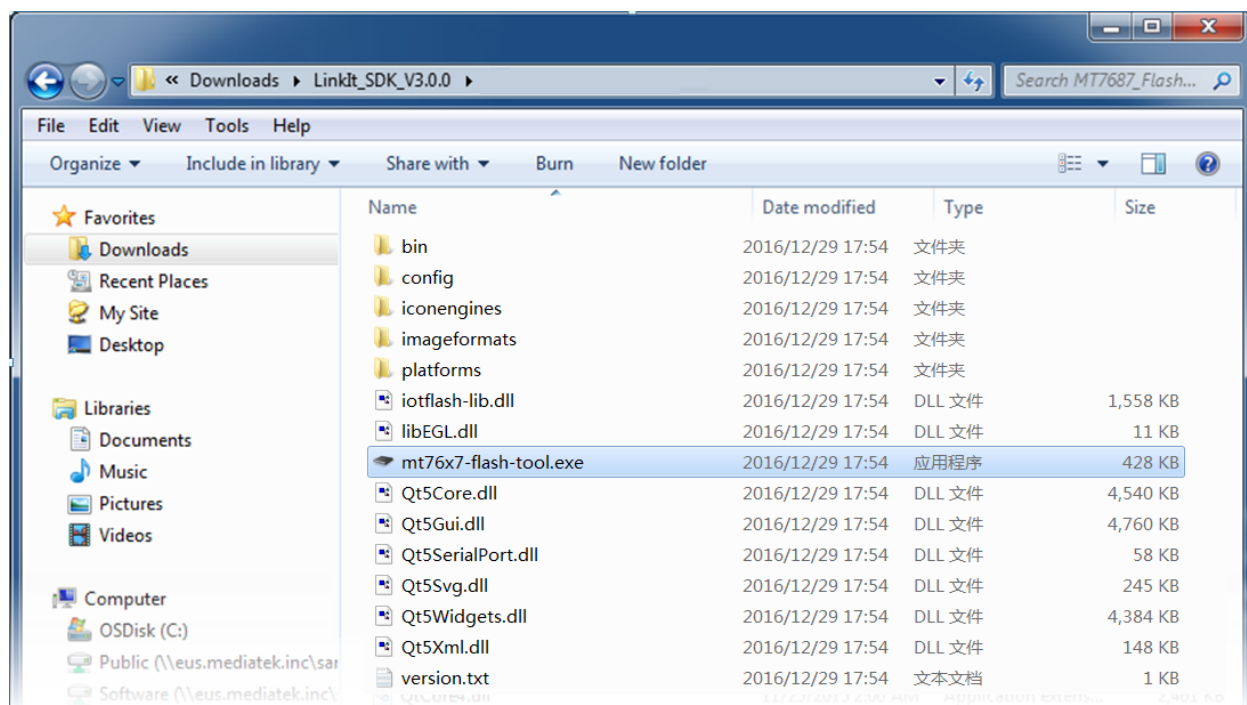

Figure 6. Executable file in the MT76x7 Flash Tool's destination folder
- 2) Execute the mt76x7-flash-tool.exe to launch the Flash Tool (see Figure 6).